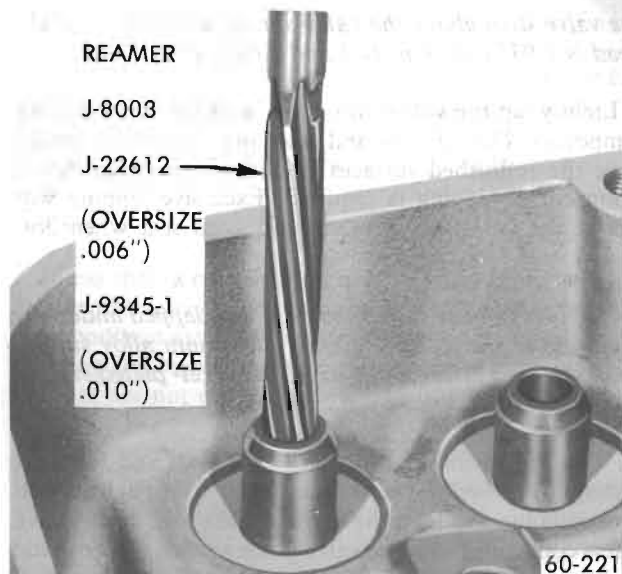

Figure 60-78 - Reaming Valve Guide
7. If valve stem has too much clearance in its guide, the guide should be reamed to .006" oversize using J-22612 and then to .010" oversize using Reamer J 9345-1. See Figure 60-78.